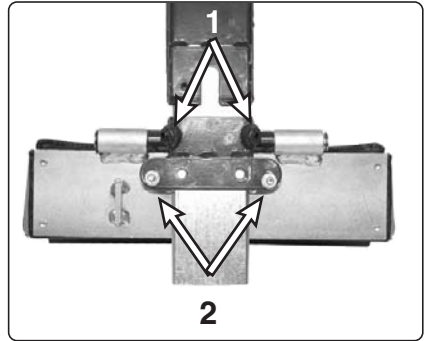

Fig. 7. Leg rest viewed from the rear.
1. Loosen the foot plate's two locking screws, see Fig. 7:1.
5. Loosen the foot plate's two locking screws, see Fig. 7:1.
The slope of the foot plate can be adjusted by screwing the nuts on the foot plate's adjustment screws in or out, see Fig. 7:2.